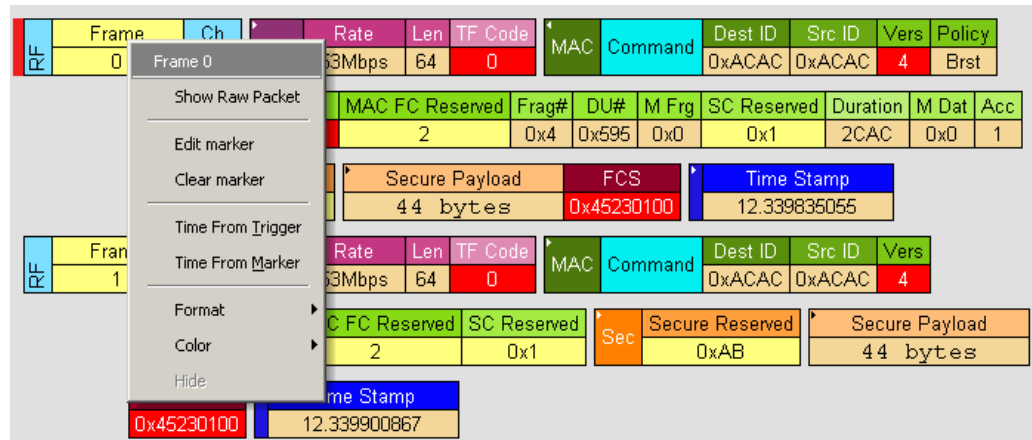

Figure 3.15 Editing a Frame Marker
Step 1 Click **Frame #** for the chosen packet to display a pop-up menu (Figure 3.15).
Step 5 To clear a marker, click **Clear marker** in the frame pop-up menu (Figure 3.15). The vertical red Marker bar disappears.
Step 2 In the pop-up that appears (Figure 3.15), select **Time from Marker** to display the Timing and Bus Usage Calculator. The first point is in the From Frame field.